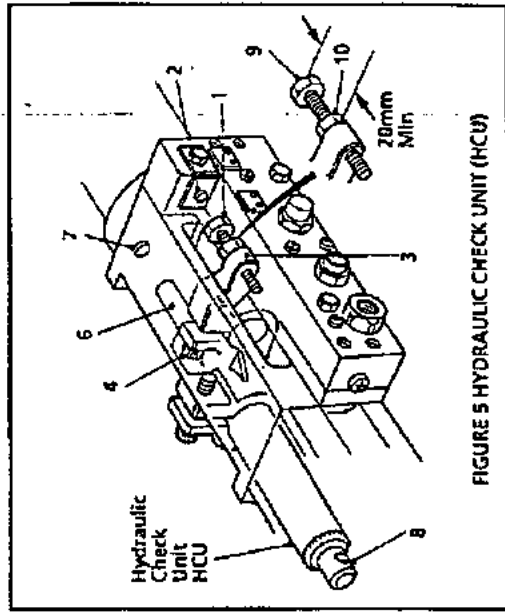

FIGURE 5 HYDRAULIC CHECK UNIT (HCU)
**SETTING DRILLING OPERATION (See Figure 5)**
Use Figure for the final depth adjustment as electric Figure 5 (9).
Lock using Figure 5 (10).